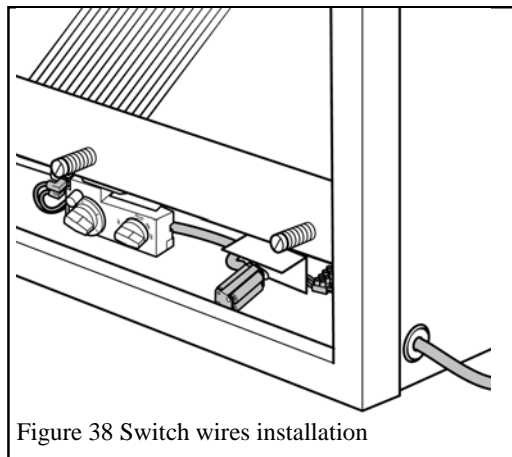

Figure 38 Switch wires installation
See figures 38, 39 & 40.
2. Route round the back of the valve and connect the two "L" terminals to the tabs at the left side of the control unit. See figure 38.